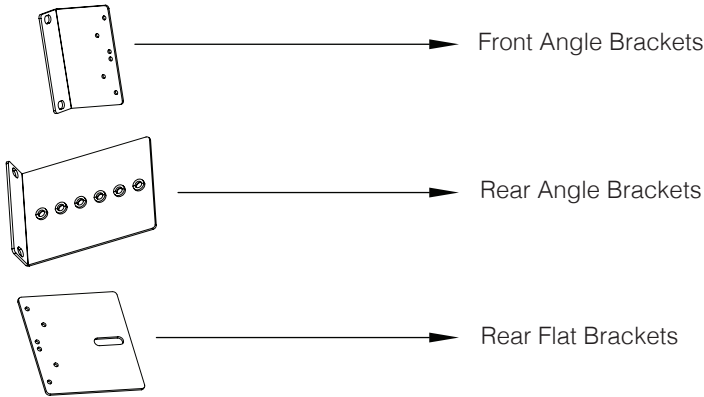

Figure 2.2.2 Mounting Kit
- Rack mount the amplifier with the rack mounting kit, see Figure 2.2.2.